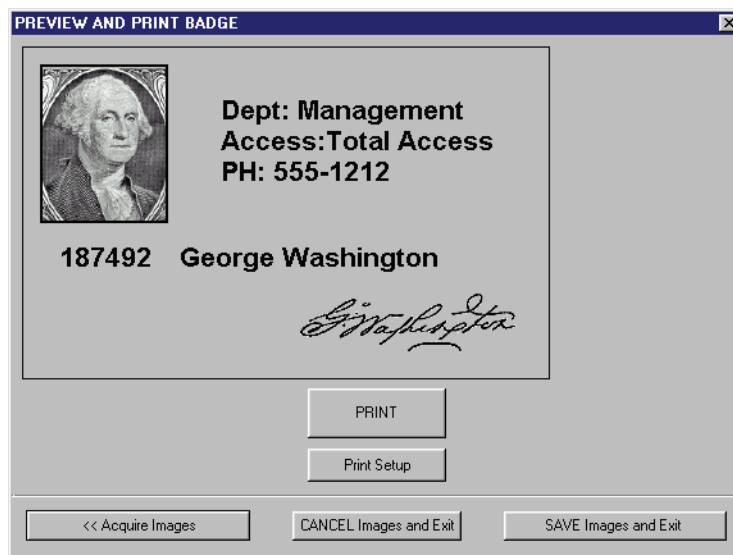

Figure 9-35 Preview and Print a Single-Sided Badge
1. Click on the  button and the Preview and Print Badge window opens and a sample of the badge is displayed (see Figure 9-35).